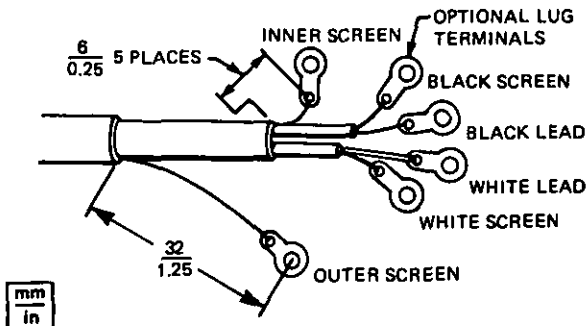

Figure 7.
2. Trim back inner jacket and foil screen as shown in Figure 7. Do not cut inner screen lead.
5. If connections to terminal lugs are desired, connect lugs (supplied by user) to terminals as shown in Figure 7.